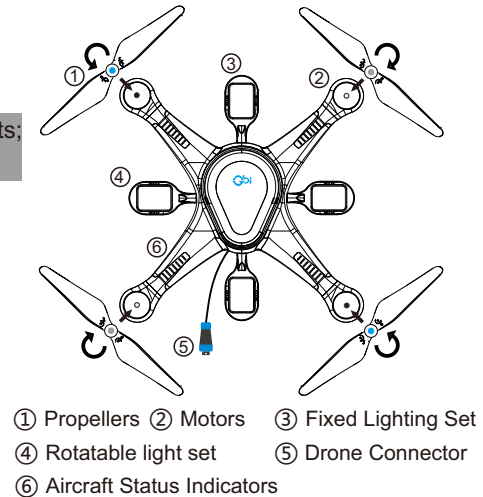

Figure 2:Schematic diagram of the lighting drone components
⑥ User Manual *1
⑦ Warranty Card *1
⑧ Rolling Luggage* 1
⑨ Storage Bag *2
⑩ Oarlock*1
⑪ Waterproof Socket * 1
1.Installation Of Lighting Drone Propellers (Refer To Figure 2)